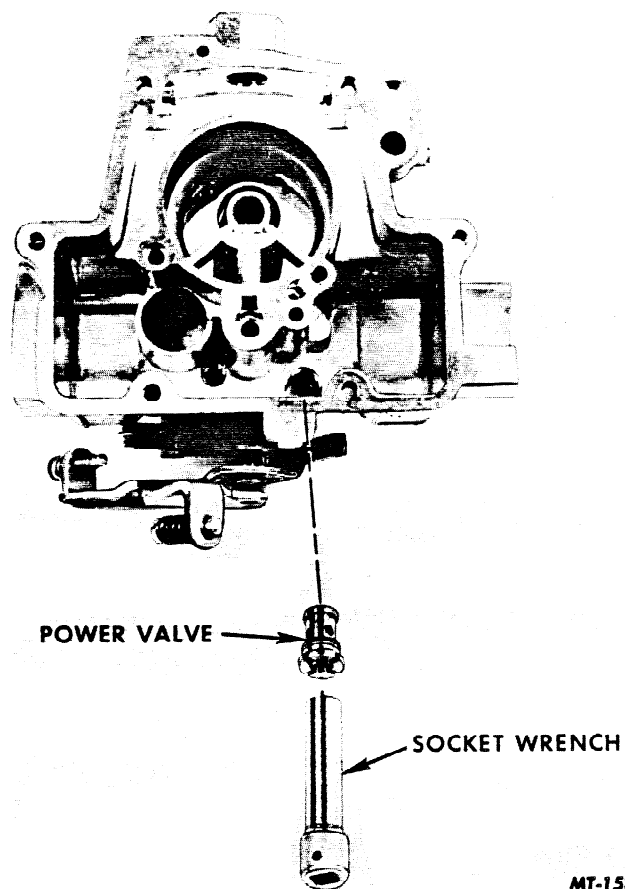

FIG. 27 Remove or Install Power Valve
4. Remove the power valve assembly with a proper socket or a 3/8" wide screwdriver blade with a 1/16" x 3/8" deep slot sawed in the center of the blade. The slot will clear the power valve stem and prevent damage (Figure 27).